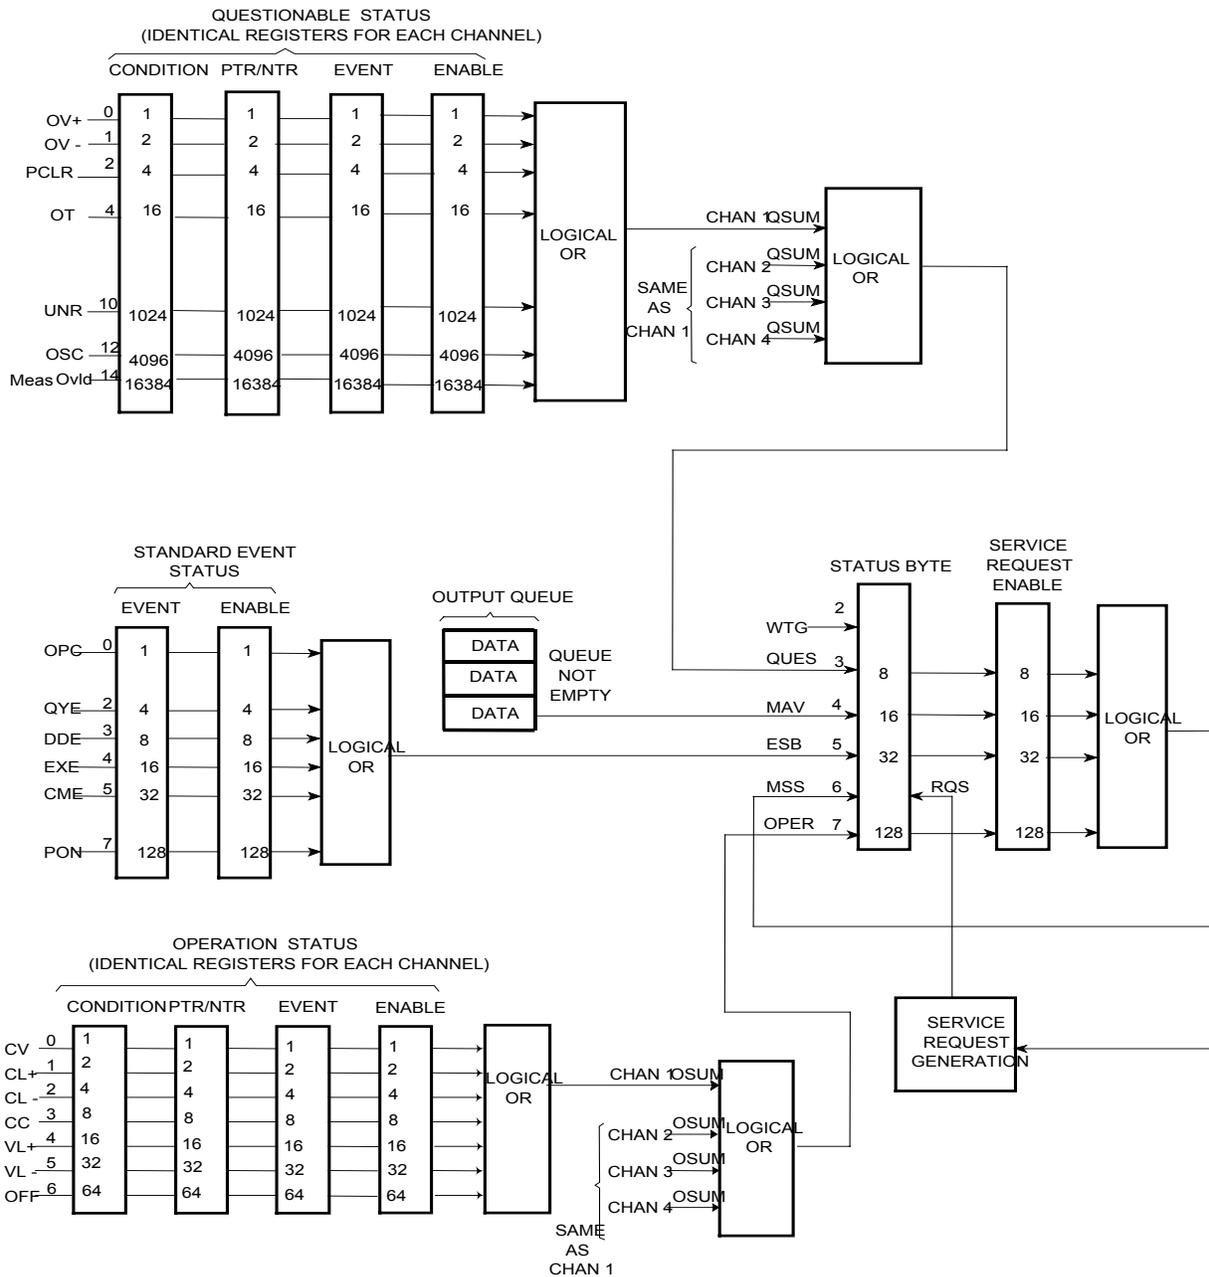

Figure 5-5. DC Source Status Model
Figure 5-5 shows the status register structure of the dc source. Table 5-1 defines the status bits. The Standard Event, Status Byte, and Service Request Enable registers and the Output Queue perform standard GPIB functions as defined in the *IEEE 488.2 Standard Digital Interface for Programmable Instrumentation*. The Operation Status and Questionable Status registers implement functions that are specific to the dc source.
This group consists of an Event register and an Enable register that are programmed by Common commands. The Standard Event event register latches events relating to instrument communication status (see figure 5-5). It is a read-only register that is cleared when read. The Standard Event enable register functions similarly to the enable registers of the Operation and Questionable status groups.
This example assumes you want a service request generated whenever the dc source switches to the CC (constant current) operating mode, or whenever the dc source's overvoltage, overcurrent, or overtemperature circuits have tripped. From figure 5-5, note the required path for a condition at bit 10 (CC) of the Operation Status register to set bit 6 (RQS) of the Status Byte register. Also note the required path for Questionable Status conditions at bits 0, 1, and 4 to generate a service request (RQS) at the Status Byte register. The required register programming is as follows: